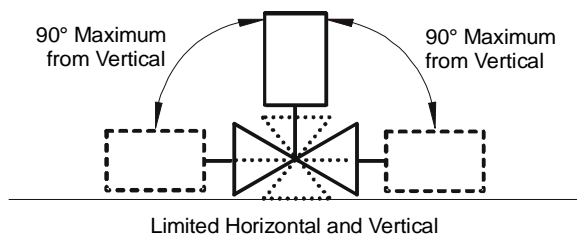

Figure 1: G960 Valve Mounting Position
5. Mount the valve to the pipework. The G960 valve may be mounted on a horizontal manifold with the solenoid coils pointed up (vertical) or in any position not exceeding 90° from the vertical. The valve also may be mounted on a vertical manifold in any position around its axis (see Figure 1). Do not install the solenoid coil upside down. Install vertically wherever possible.